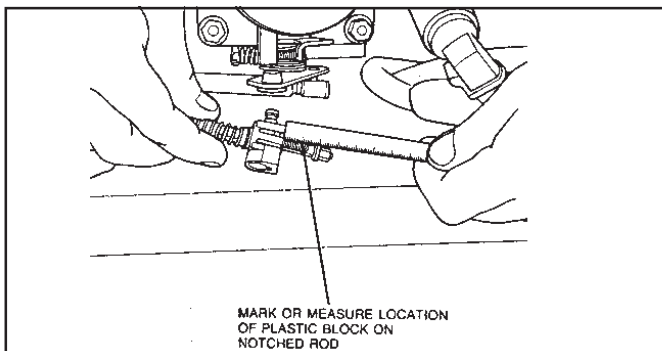

Figure 26
7.10 Mark or measure location of plastic block on notched rod. **(See Fig. 26.)**